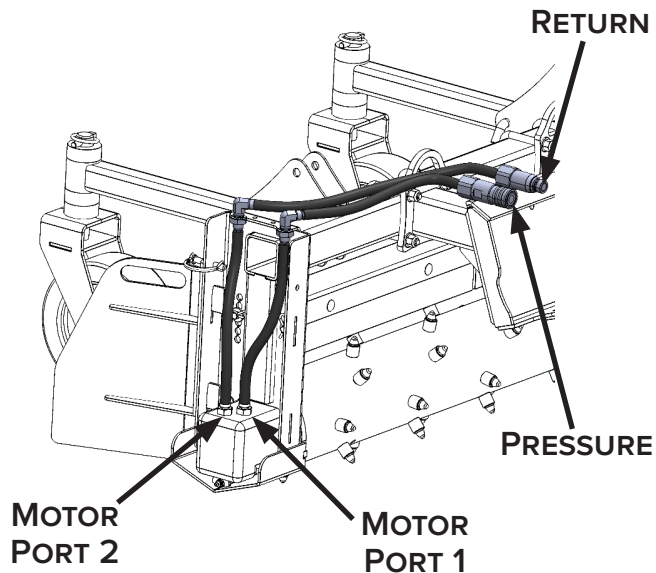

Figure 2
2. Supplied hoses are connected as shown in Figure 2. This is the typical method. Other connection options are dependent upon specific applications and travel direction.